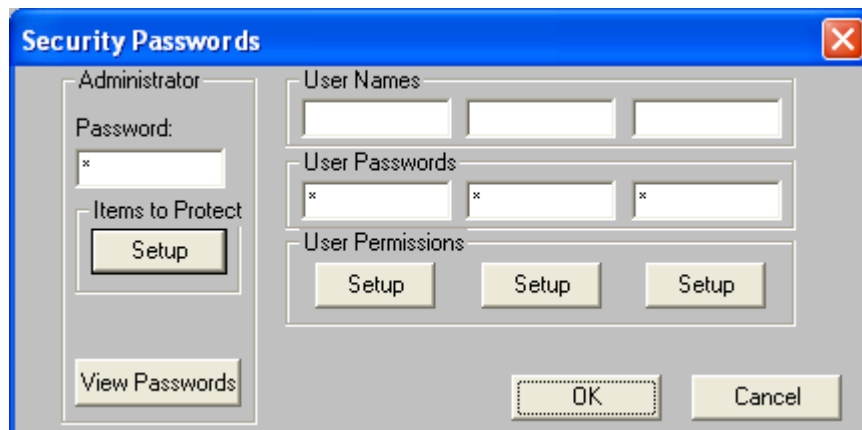
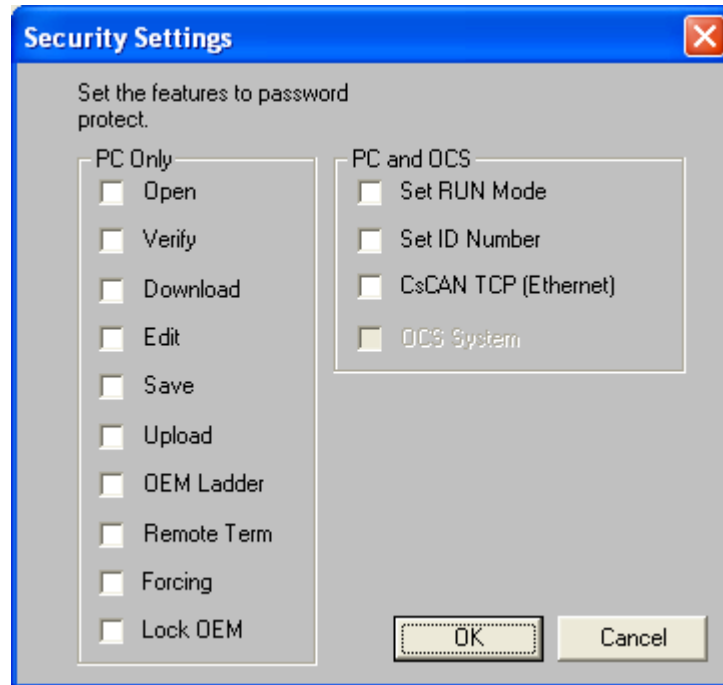

Figure 4.3 – Security Passwords Dialog
Figure 4.4– Administrator’s Security Settings Dialog
3. On the main Cscape screen, select the **Tools** menu and its **Security** sub-menu, and then click **Change Passwords**, to open the **Security Passwords** dialog, as shown in Figure 4.3.
- Click on the **Items to Protect Setup** button to open the Administrator's **Security Settings** dialog, as shown in Figure 4.4.
- To password-protect CsCAN over Ethernet protocol, make sure the **CsCAN TCP (Ethernet)** checkbox is checked in the Administrator's **Security Settings** dialog, as shown in Figure 4.4. Then click **OK**.
- The Administrator password is always authorized for all protected features. If desired, one or more of the user passwords can also be authorized for CsCAN over Ethernet communication. To do this, refer to Figure 4.3 and click one of the **User Permissions Setup** buttons to open that user's **Security Settings** dialog, which will be similar to Figure 4.4. Then check the **CsCAN TCP (Ethernet)** checkbox and click **OK**.